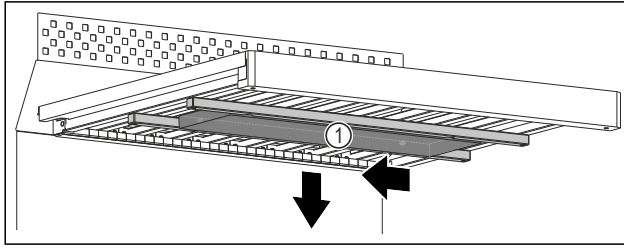

Fig. 99
- ▶ Push the water box Fig. 99 (1) to the left.
- ▶ Remove the water box Fig. 99 (1) downwards.